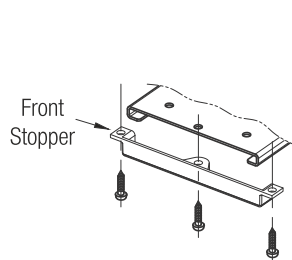

Fig. 3.
3. Screw the plastic Front Stopper onto the front end of the Retainer Plate. (Ref. Fig. 3)